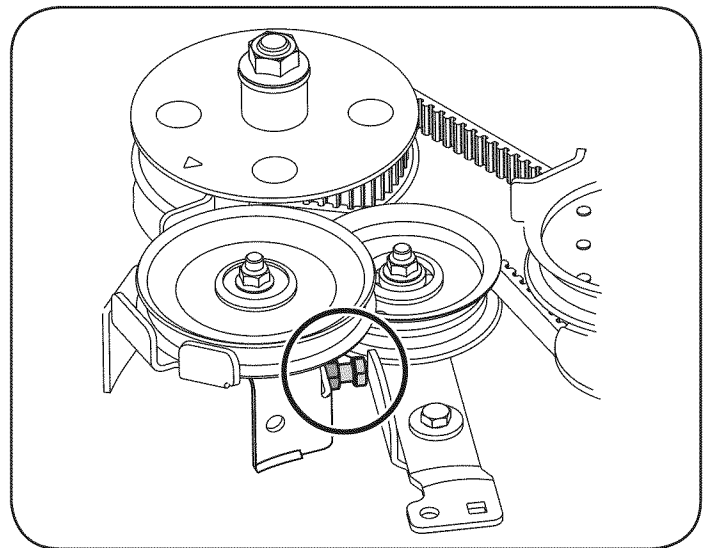

Figure 26
5. Loosen 3/8-16 screw and nut attached to deck mount, Figure 26.